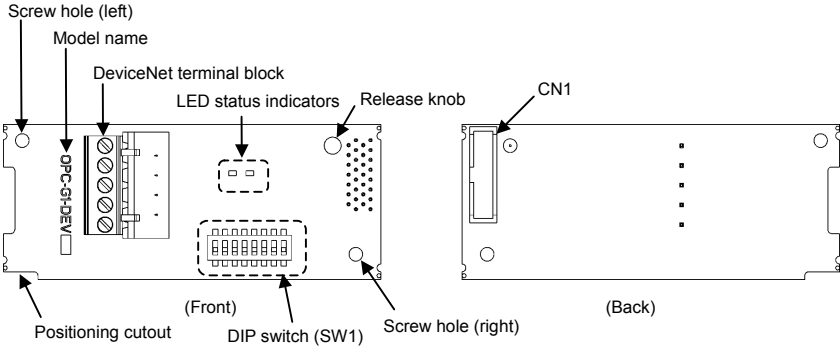
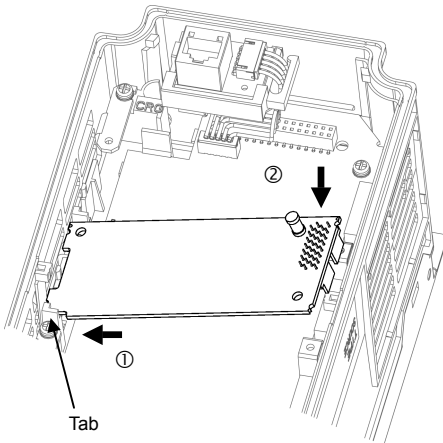
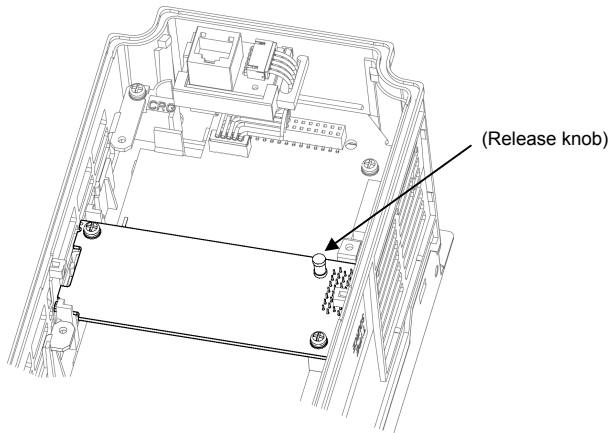

Figure 2.1 Names of Parts on DeviceNet Communications Card (OPC-G1-DEV)
Figure 3.2 Mounting the Communications Card (to B-port)
Figure 3.3 Mounting Completed (on B-port)
- (1) A communications card, two screws (M3 × 8), and the DeviceNet Communications Card Instruction Manual (this manual) are contained in the package.
- (2) The communications card is not damaged during transportation--no defective parts, dents or warps.
- (3) The model name "OPC-G1-DEV" is printed on the communications card. (See Figure 2.1.)
Figure 2.1 shows the names of the parts on the DeviceNet communications card.
- (2) Insert connector CN1 on the back of the communications card (Figure 2.1) into any of the A-port (CN4), B-port (CN5), and C-port (CN6) on the inverter's control PCB. Then tighten the two screws that come with the card. (Figure 3.3)
**Note** Check that the positioning cutout (shown in Figure 2.1) is fitted on the tab (① in Figure 3.2) and connector CN1 is fully inserted (② in Figure 3.2). Figure 3.3 shows the communications card correctly mounted.
- (3) Perform wiring on the communications card.